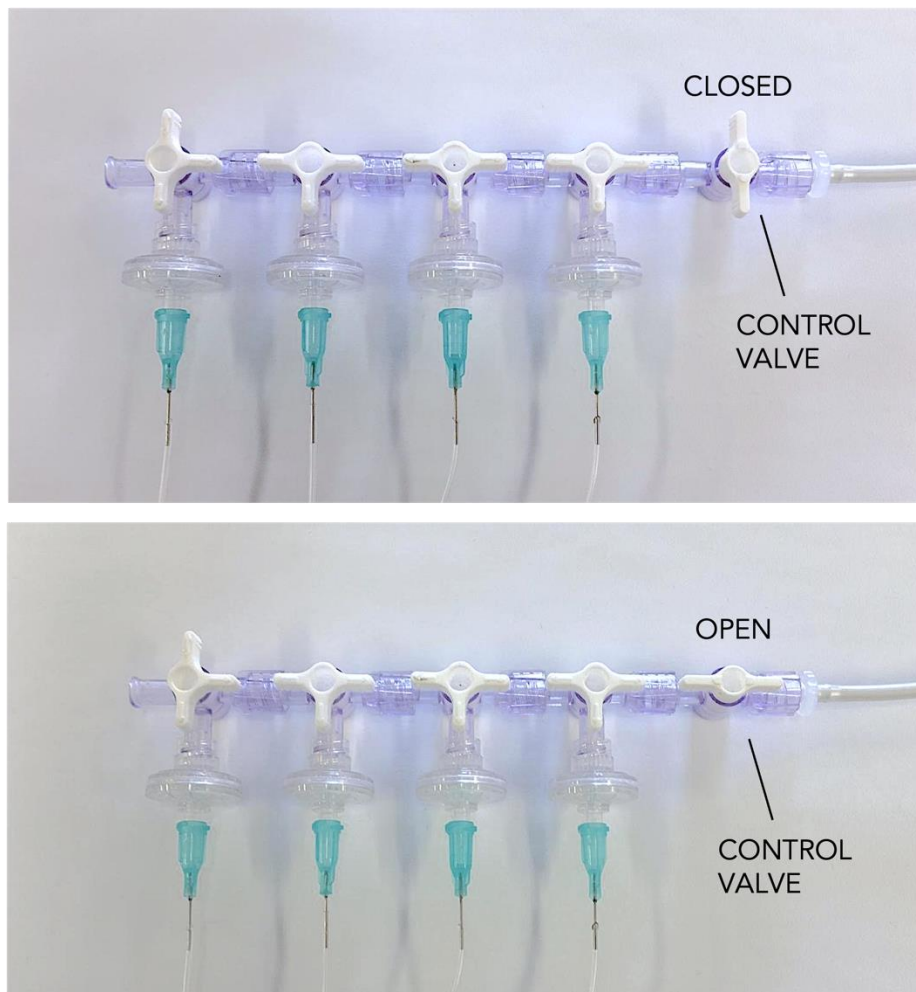
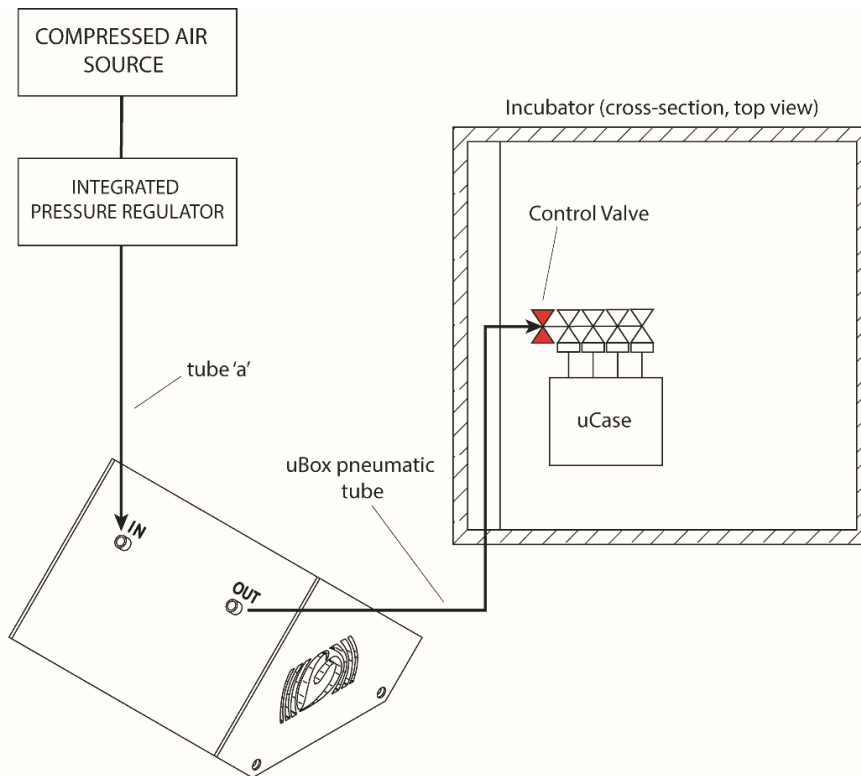

Figure 14 – Assembly of the ramp with the uBox pneumatic tube, to connect uCase with uBox: closed configuration (top) and open configuration (bottom).
Figure 15 – Schematic view of uBox system, which displays all the connections.
- a) As displayed in Figure 14, connect the ramp of the uCase to the uBox pneumatic tube, which ends with a CONTROL VALVE to allow/block the access to the air flow. **Be careful, the CONTROL VALVE (Figure 15, in red) must remain closed (Figure 14, top) during this setup.** It must be opened only during the filling and the stimulation stages.
- b) Connect the uBox pneumatic tube (see Figure 15) to 'OUT' port of uBox and close the incubator. This tube is meant to pass through the incubator door, so pay attention not to accidentally occlude it.
- c) Open the compressed air valve and (if present) set the integrated pressure regulator at 1 bar (see Figure 15, *integrated pressure regulator*). **Remember to keep the CONTROL VALVE closed during this phase.**